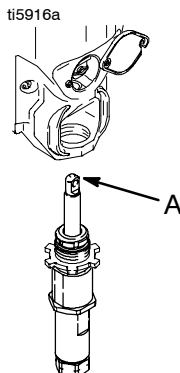

Fig. 20 TI0062
1. Fig. 20. Extend pump piston rod fully. Apply grease to top of pump rod at (A) or inside connecting rod.